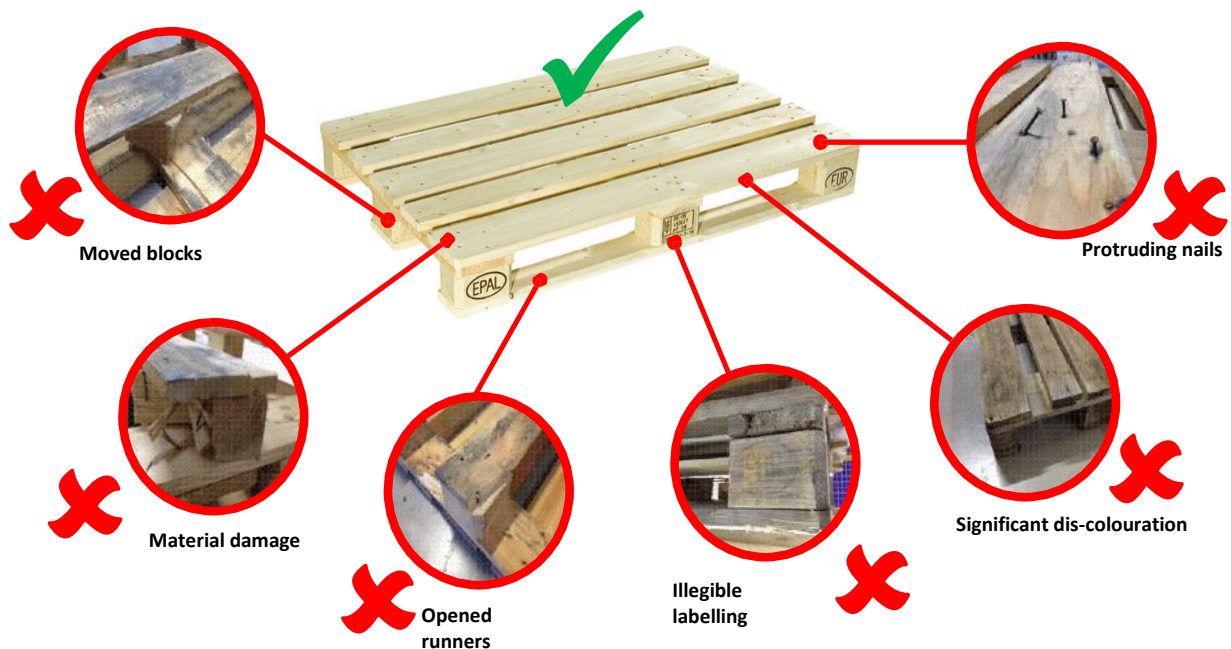

Fig. 22: Examples of Euro pallet faults
- Good condition of the pallet is mandatory: a detailed contour and stability check should be made upon collection of all pallets (see Fig. 22) with a focus on runners and fork clearance. The pallet must not have any twisted blocks or other damage (such as incomplete runners, protruding splinters).